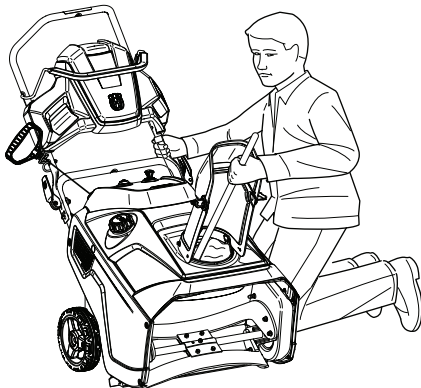

Figure 20
3. Always use a clearing tool at least 15 inches long, not your hands (Figure 20).